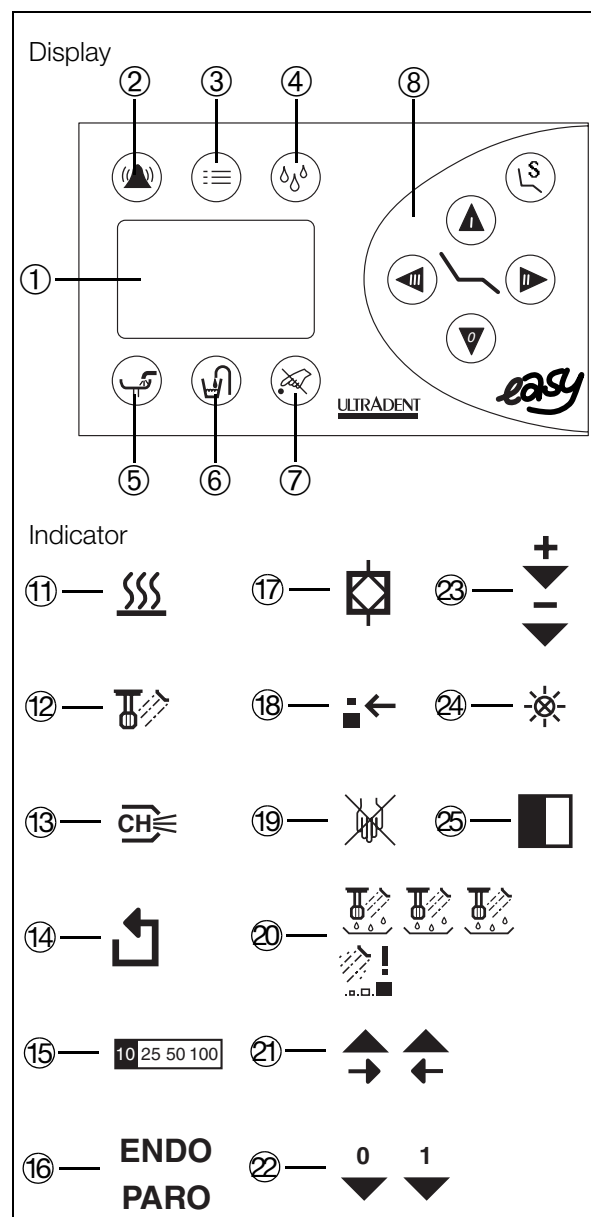

Fig. 40
You can activate or deactivate the spray cooling function using the foot control. When the spray cooling function is activated, the spray pre-selection display (12) (Fig. 40) on the control panel lights up.
The unit is fitted with a chip blower as standard. When it is switched on, the display lights up (13) (Fig. 40).